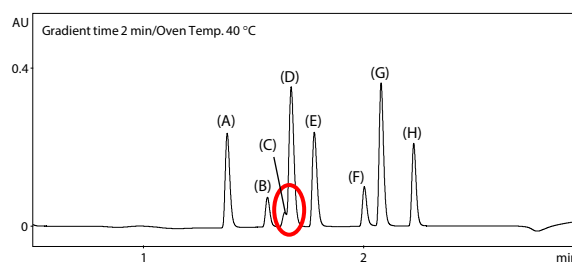
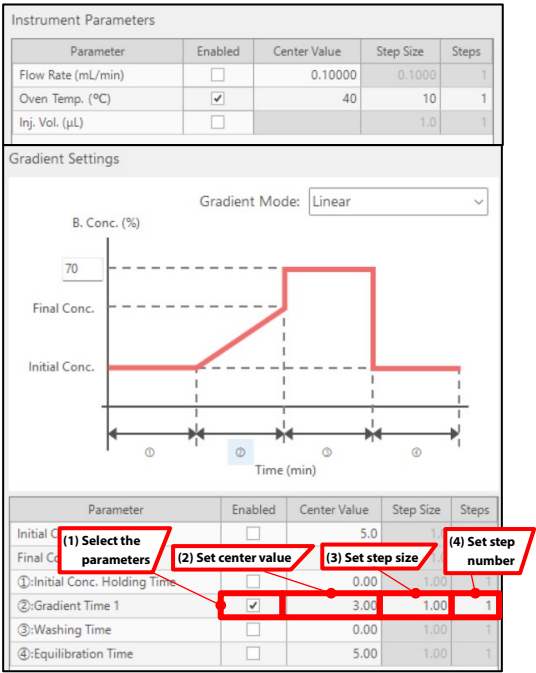
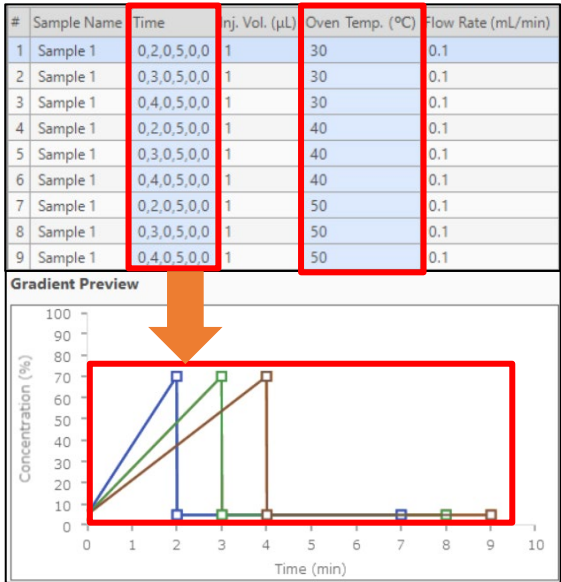

Fig. 2 Chromatogram Obtained Using the 1-mm-ID Column (Before separation optimization)
Fig. 3 Analysis Schedule Creation Screen
Fig. 4 Automatic Generation of Analysis Schedule
Fig. 2 shows the chromatogram obtained under the analytical conditions listed in Table 1 (gradient time: 2 min, column oven temperature: 40 °C). Compounds (C) and (D) co-eluted (red circle in Fig. 2), indicating that optimization of the separation is required. LabSolutions MD enables anyone to perform rapid and error-free exploration of separation conditions by automatically generating analysis schedules under comprehensive combinations of parameters (steps (1)–(4) in Fig. 3). For example, when varying the gradient time (red box in Fig. 3), an entered center value of 3 min is adjusted by one step above and below the center at 1-min increments, resulting in automatically generated schedules of 2, 3, and 4 min. In this study, nine analytical schedules (Fig. 4) were automatically generated by varying the gradient time (2, 3, 4 min; three patterns) and column oven temperature (30, 40, 50 °C; three patterns), enabling comprehensive evaluation of the separation.